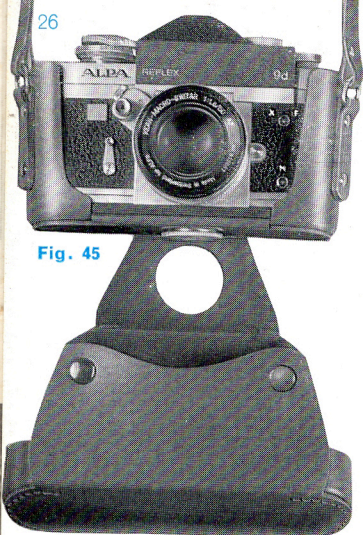
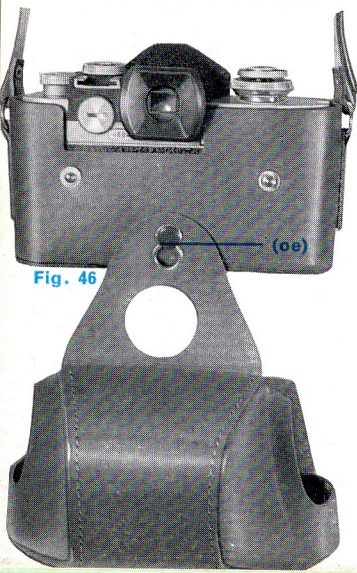

Fig. 45
Fig. 46
l) Ever-ready case: (Fig. 45 & 46) made of first-quality washable hide and available in dark brown („cidark”) or black („ciblak”). Attractive, functional design (protected), will accept camera fitted with any of the following lenses: Switar, Makro-Switar, Curtagon, 40 mm Makro-Kilar or 75 mm Xenar. The drop front is attached by means of snap (oe) (Fig. 46) fasteners and can easily be detached from the body of the case.